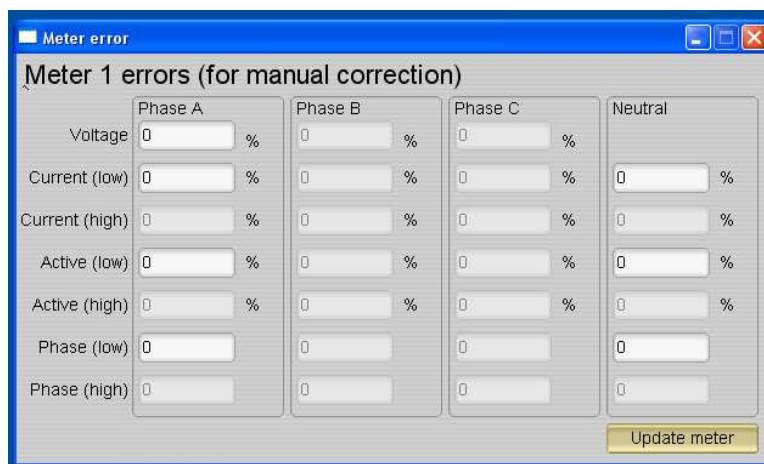

Figure 33. Manual Calibration Window
1. Connect the GUI to view results for voltage, current, active power, and the other metering parameters, as shown in Figure 33.